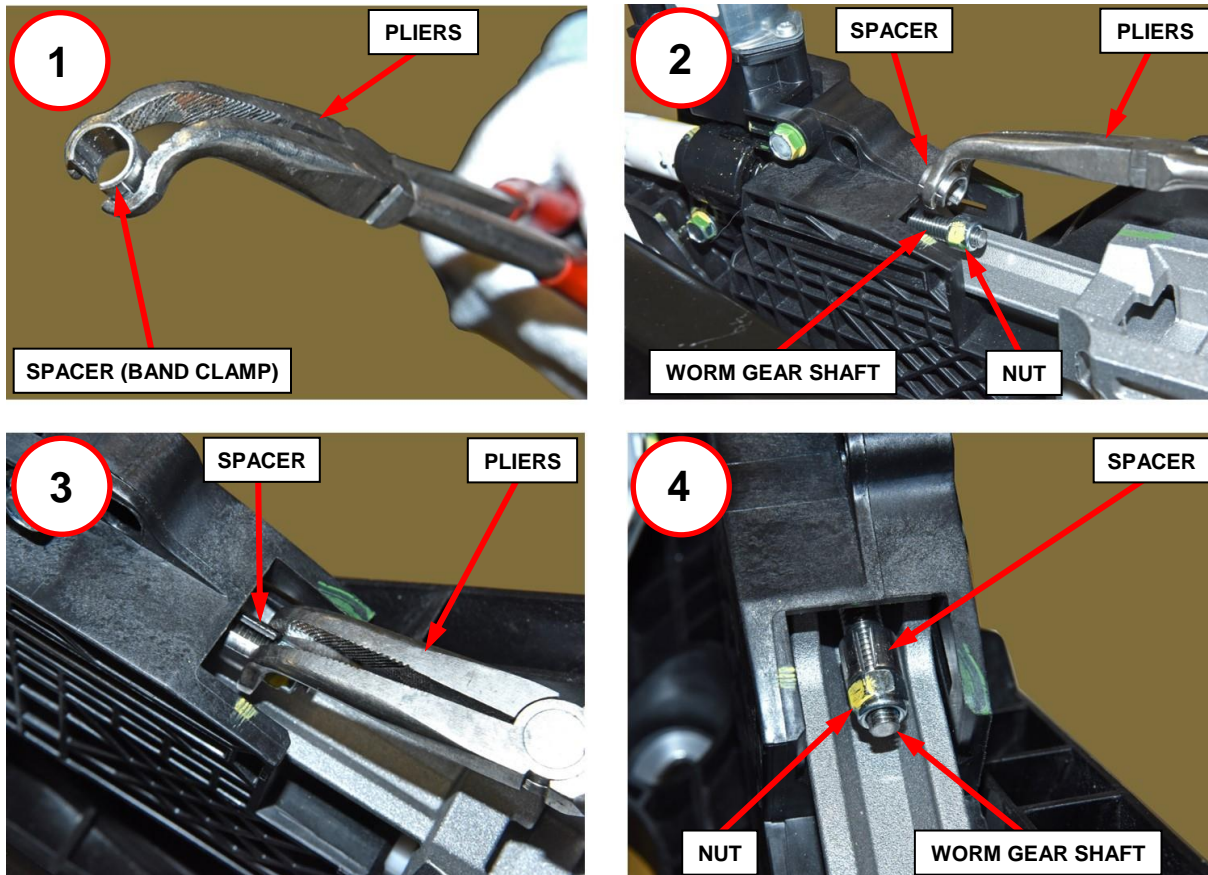

Figure 8 – Worm Gear Shaft Spacer (Band Clamp) Installation
- 7. Using pliers, crimp the spacer completely around the pedal assembly worm gear shaft so that it will not come off. Crimp must be tight enough to eliminate spacer rotation and movement in order to prevent any possible rattle noises (Figure 8).